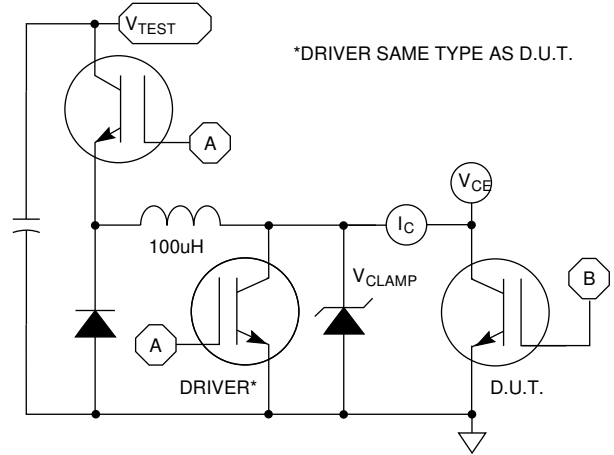

Figure 24, E_{ON1} Test Circuit
① Repetitive Rating; Pulse width limited by maximum junction temperature.
② For Combi devices, I_{ces} includes both IGBT and FRED leakages
③ See MIL-STD-750 Method 3471.
④ E_{on1} is the clamped inductive turn-on-energy of the IGBT only, without the effect of a commutating diode reverse recovery current adding to the IGBT turn-on loss. (See Figure 24.)